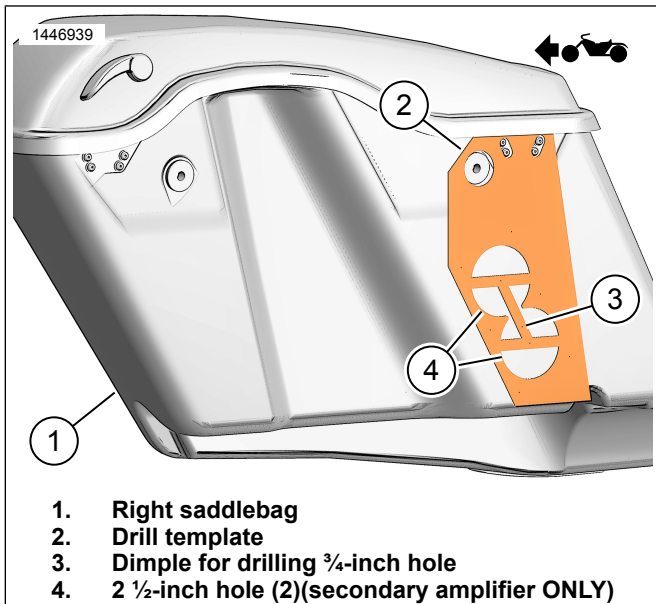

Figure 1. Right Saddlebag Template
1. Figure 1 Position template (2) on right saddlebag (1).
If the secondary amplifier has not yet been installed, see instructions in that kit to drill 2 ½-inch holes in the right saddlebag with a hole saw. Figure 1